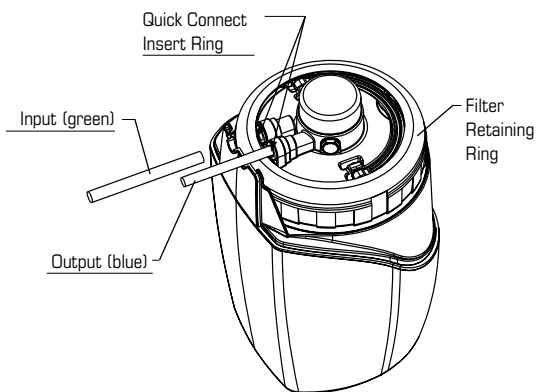

Fig. 15
7. With the Electronic Module removed, you can access the Quick Connect fittings. Remove both tubes from the filter bracket by pressing on the Quick Connect Insert Ring while simultaneously pulling on the tube (Fig. 15).